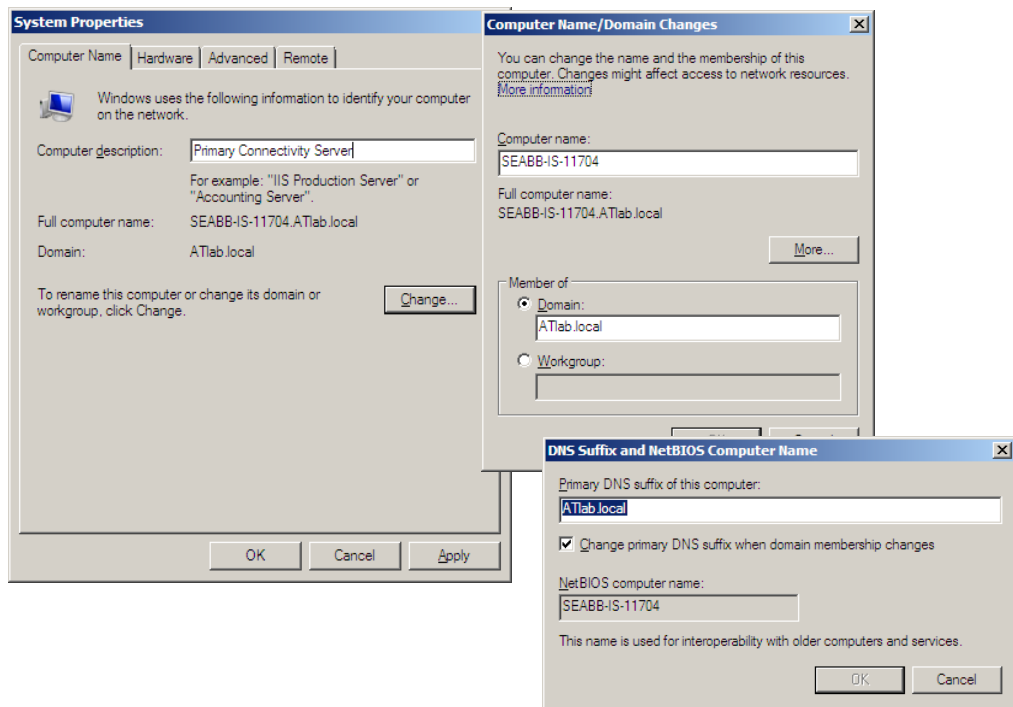

Figure 52. Full Computer Name and Primary DNS Suffix for Domain Member Computers
- The Primary DNS Suffix must be the same as the domain name. When joining the domain it will automatically be configured like this and normally does not need to be changed. To check that it is correct open **Start > Settings > Control Panel > System**, select the tab Computer Name, open Change and More, see Figure 52.